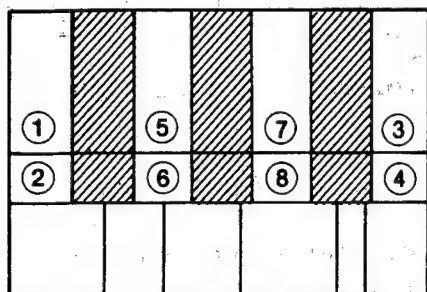

Fig. 25
10. Adjust Chroma Control so that the Contrast for ① and ②, and for ③ and ④ is the same as shown in Fig. 25.
11. Adjust Phase Control so that the Contrast for ⑤ and ⑥, and for ⑦ and ⑧ is the same as shown in Fig. 25.